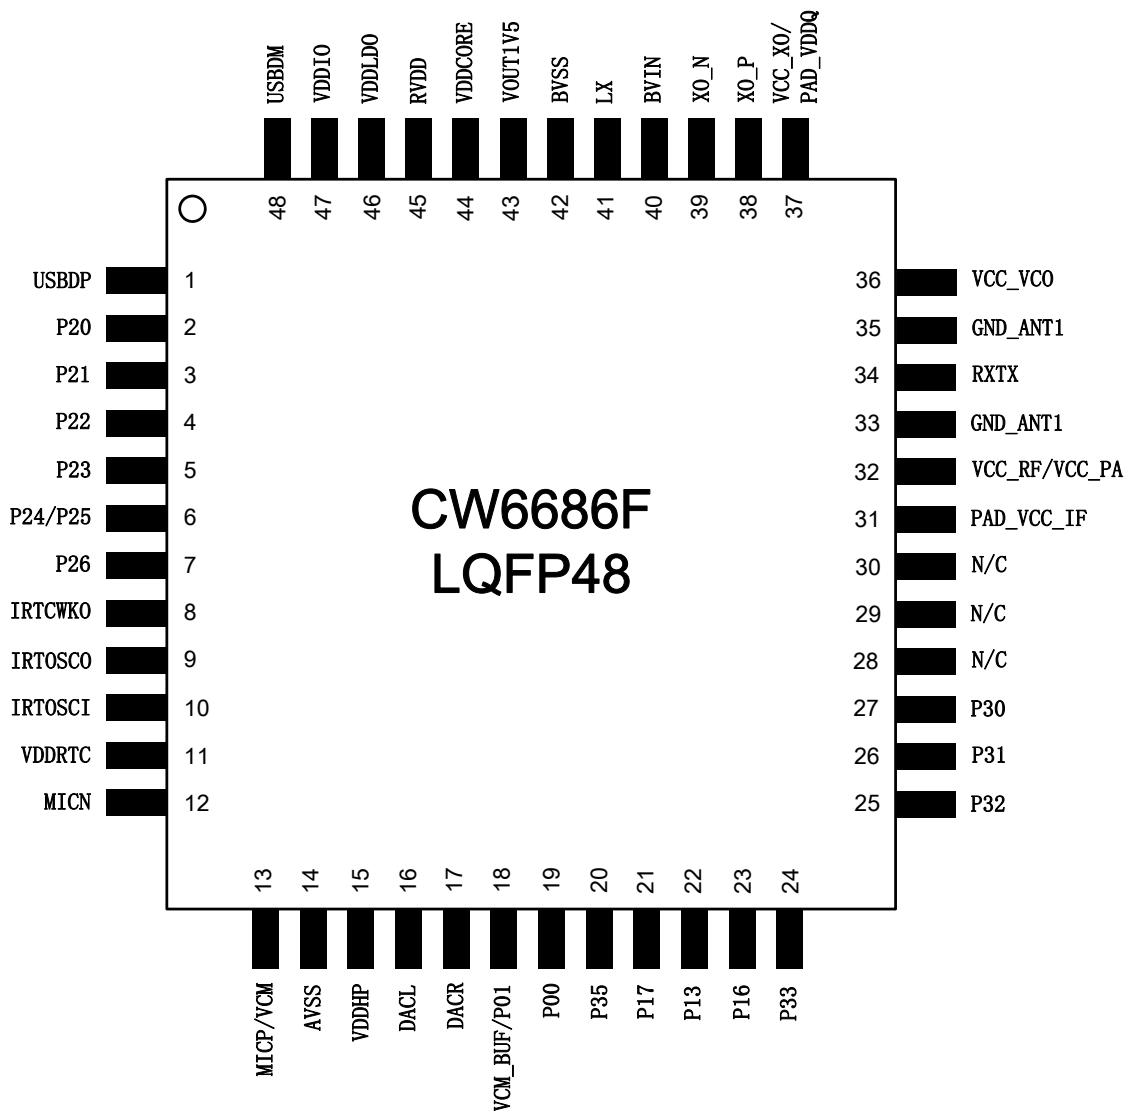

Figure 2-1 Pin Assignment of CW6686F
*Figure 2-1* shows the pin assignment of CW6686F.